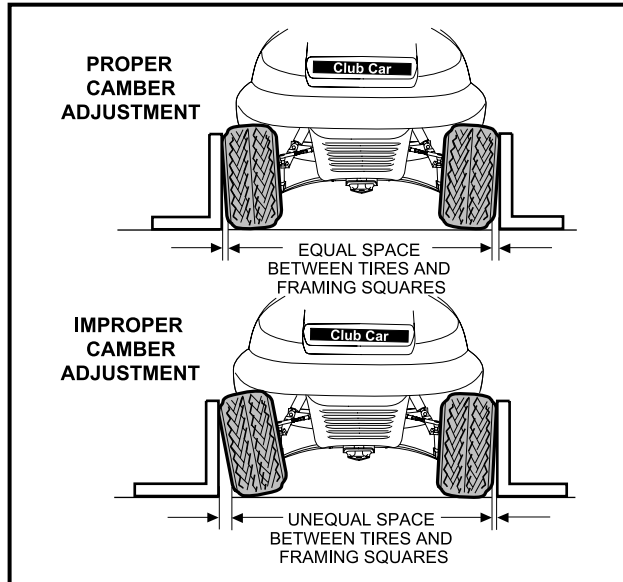
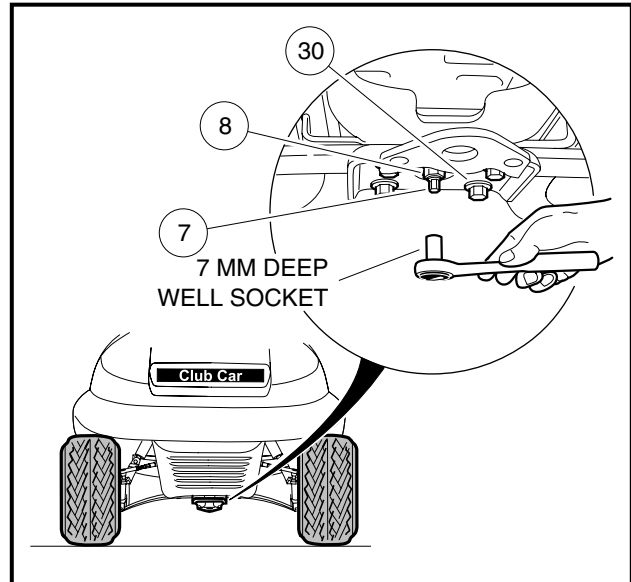
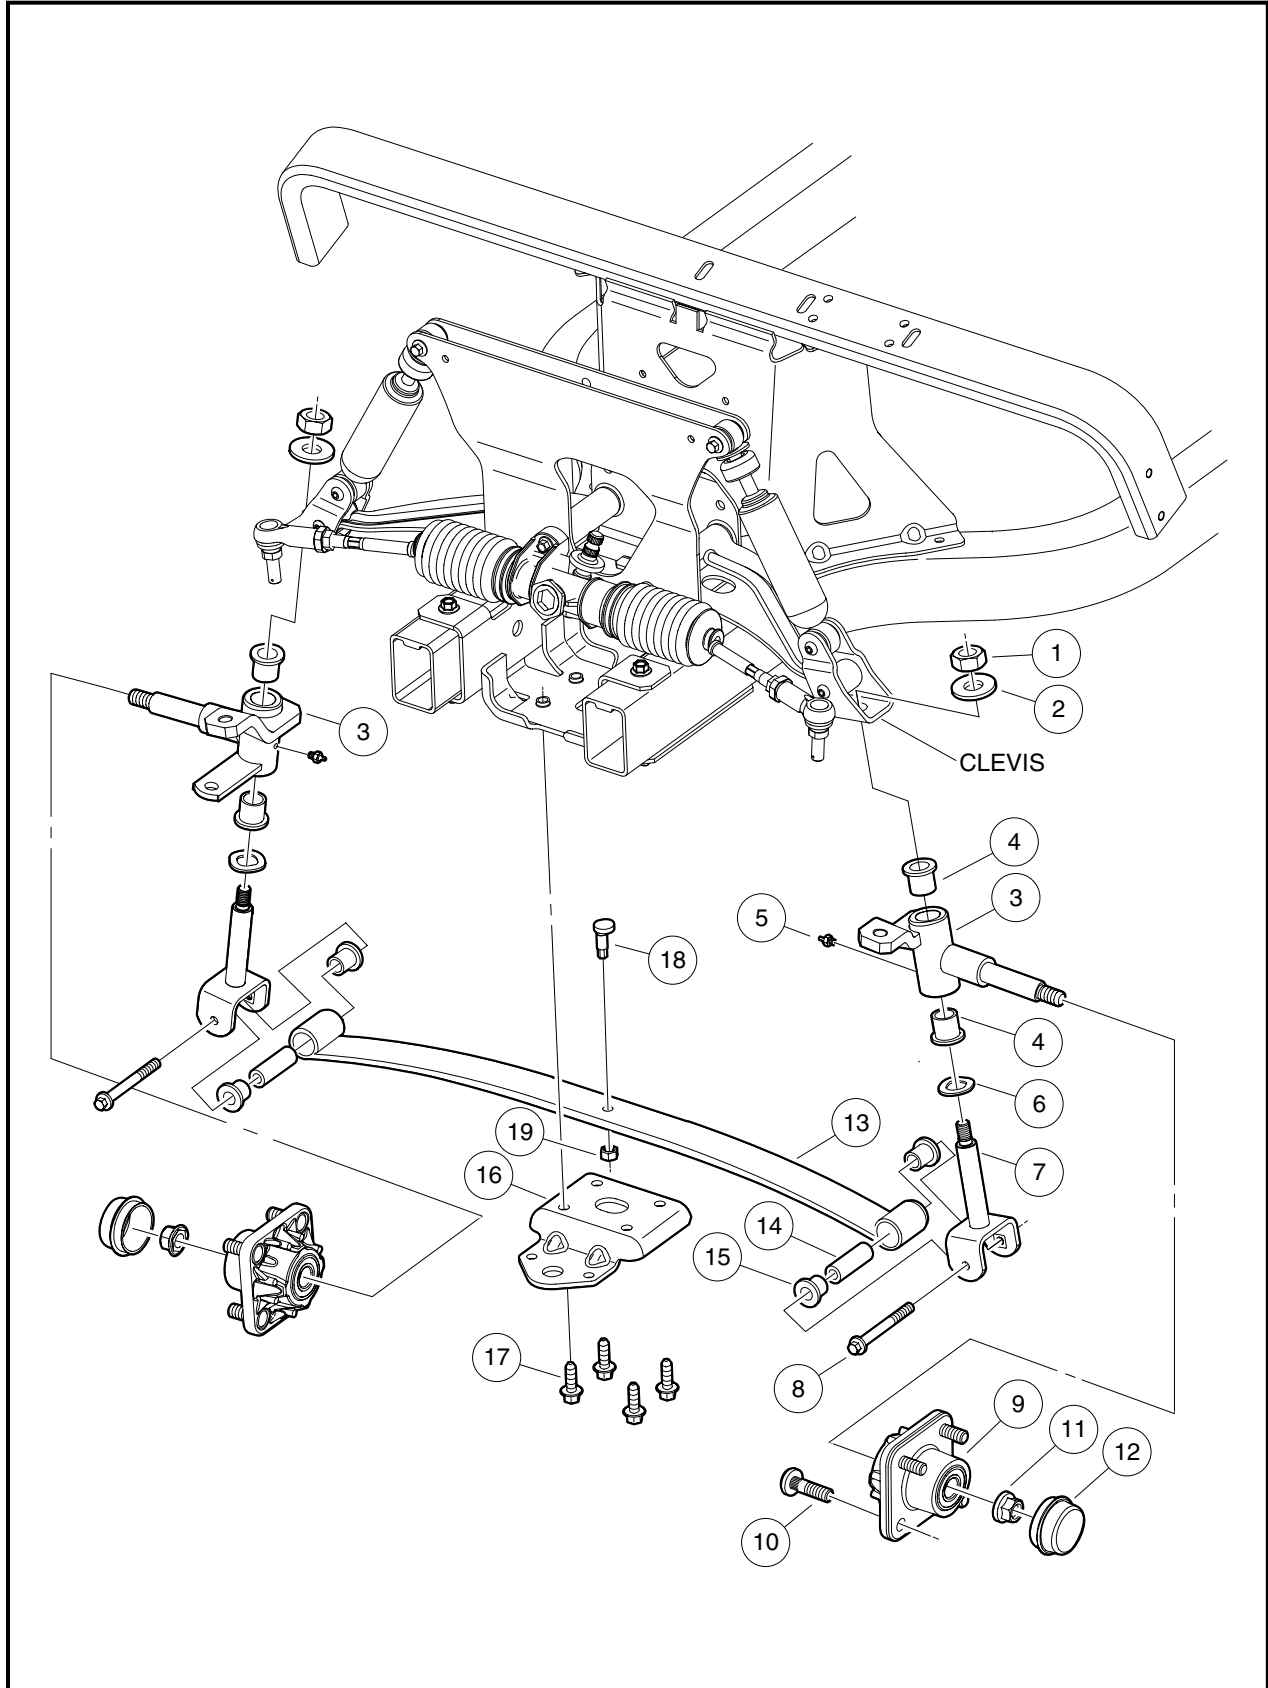

Figure 7-14 Check Camber
Figure 7-15 Adjust Camber
Figure 7-19 Lower Front Suspension Assembly
1. Check each front wheel with a framing square. At the floor (or ground), there should be an equal amount of space between each tire and the framing square (**Figure 7-14, Page 7-11**).
2. Loosen (do not remove) the four bolts (17) that secure the leaf spring (13) to the bottom spring plate (16) (**Figure 7-19, Page 7-16**). See also **Figure 7-15, Page 7-11**.
3. Loosen (do not remove) the hex nut (8) on the adjustment eccentric (7) (**Figure 7-15, Page 7-11**) in the center of the spring. See also **Figure 7-19, Page 7-16**.
4. Use a 7 mm deep well socket to rotate the eccentric (**Figure 7-15, Page 7-11**).
5. After adjusting camber, use a crisscross pattern to tighten the four spring retaining bolts (17) (**Figure 7-19, Page 7-16**) to 23 ft-lb (31 N·m). Then roll the vehicle forward one full tire revolution and recheck the camber. See also **Figure 7-14, Page 7-11**.
6. Tighten the hex nut (8) on the adjustment eccentric (7) to 10 ft-lb (13.5 N·m) (**Figure 7-15, Page 7-11**). See also **Figure 7-19, Page 7-16**.
3. Remove the bolts (8) from the bottom of each kingpin (7) **(Figure 7-19, Page 7-16).**
4. Remove the four bolts (17) and bottom spring plate (16).
5. Remove leaf spring (13).
6. Check the condition of the urethane bushings (15) and steel sleeves (14). Replace any that are worn or damaged.
1. Install urethane bushings (15) and steel sleeves (14) into leaf spring eyes **(Figure 7-19, Page 7-16).**
2. Install leaf spring (13), bottom spring plate (16), and four bolts (17). Using a crisscross pattern sequence, tighten bolts to 23 ft-lb (31 N·m).
3. Install spring in kingpins (7) with bolts (8). Tighten to 17 ft-lb (23 N·m).
3. Remove the nut (1) and washer (2) from the top of the kingpin (7) **(Figure 7-19, Page 7-16).**
5. Slide the spindle (3) off the kingpin (7).
6. Remove the wave washer (6) and inspect it. If the washer is broken or has a wave bottom to wave crest height dimension of less than 0.040 inch (1 mm), it must be replaced.
7. Remove bolt (8) from bottom of kingpin (7) and remove kingpin.
9. Inspect the bushings (4). If the bushings are worn or damaged, remove them and press in new ones.
2. Install the kingpin (7) over the leaf spring eye. Insert the bolt (8) **(Figure 7-19, Page 7-16).** Tighten the bolt to 17 ft-lb (23 N·m).
3. Install the wave washer (6) on the kingpin.
4. Install the steering spindle on the kingpin. Place upper clevis over the kingpin threads and install washer (2) and nut (1). Tighten the nut to 50 ft-lb (68 N·m).
2. Remove dust cap (12) and lock nut (11) (**Figure 7-19, Page 7-16**).
3. Slide the hub assembly (9) off of the spindle shaft (3).
1. Clean and apply a light coat of anti-seize lubricant to the spindle shaft (3).
2. Slide the hub assembly (9) onto the spindle shaft (**Figure 7-19, Page 7-16**).
3. Install a new flanged lock nut (11) and tighten to 36 ft-lb (50 N·m).
5. Install the dust cap (12) using a rubber mallet and tapping lightly around the edge of the cap.